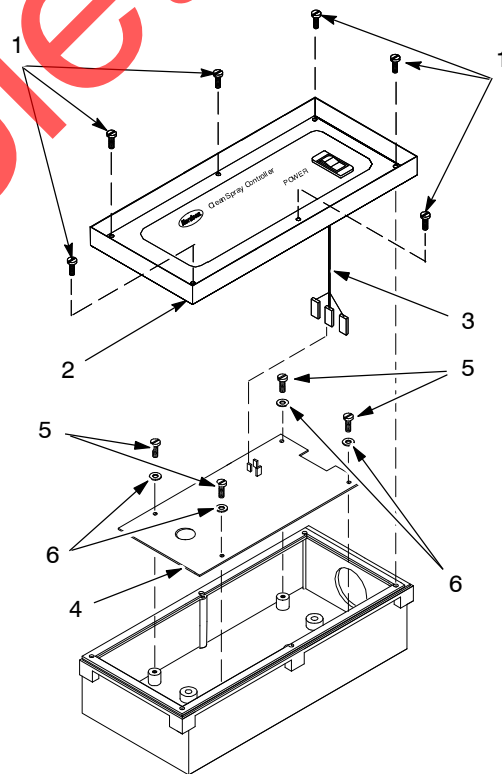

Figure 13 Circuit Board Replacement
1. See Figure 13. Remove the screws (1) securing the cover (2).
2. Disconnect the power switch harness (3) from the circuit board.
3. Disconnect P1 and P3 terminal connectors from the circuit board (4).
4. Remove the screws (5) and washers (6) securing the circuit board.